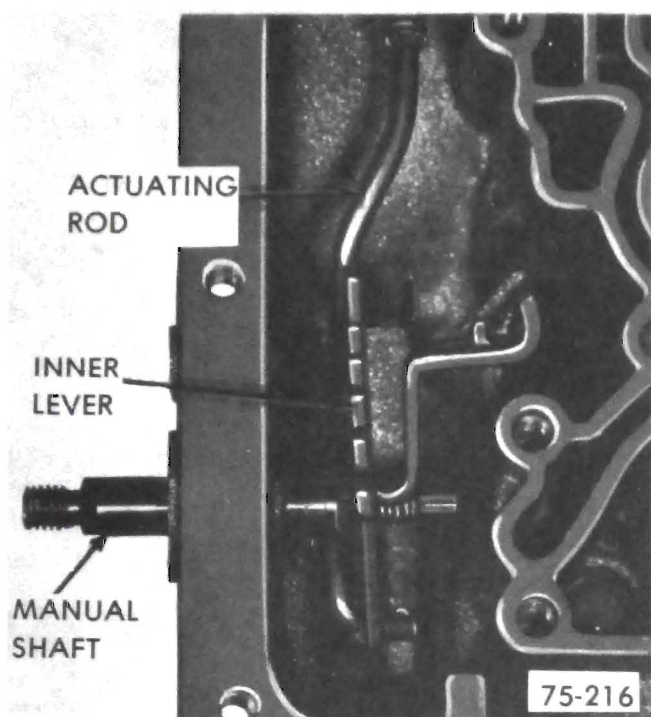

Figure 75-264
2. Install manual shaft through case and range selector inner lever. See Figure 75-264.